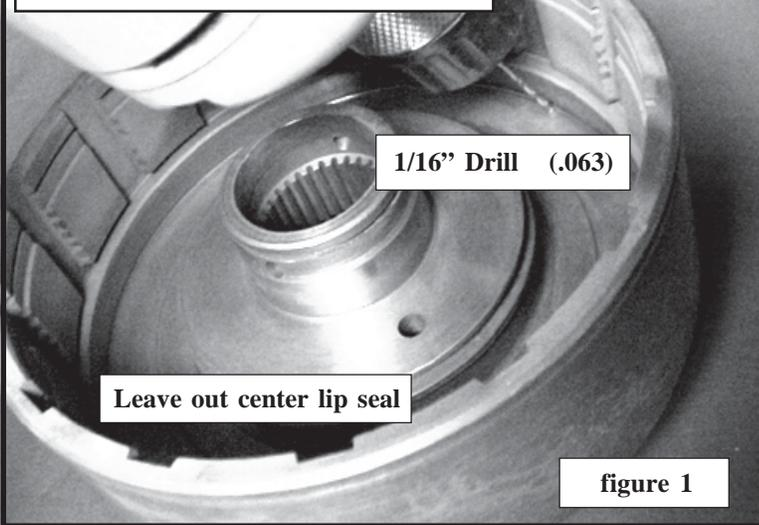

figure 1
*****NOTICE*** Only If Bleed Hole Needs To Be Drilled (see Fig 1)**
Preparation of the high clutch drum is extremely important. Removal of piston is necessary. A 1/16 inch (.063) bleed hole is drilled through the drum in the area behind the piston. It is best to drill from the inside-out placing the hole as close to the outer sealing portion as possible (big lip seal). The drill can be held at an angle for more drilling room. (...figure 1). Reinstall piston in the drum using only two lip seals, the outer and the inner. **(Do not use the center seal).** Discard the 16 original piston springs and replace them with the special springs provided with the kit.